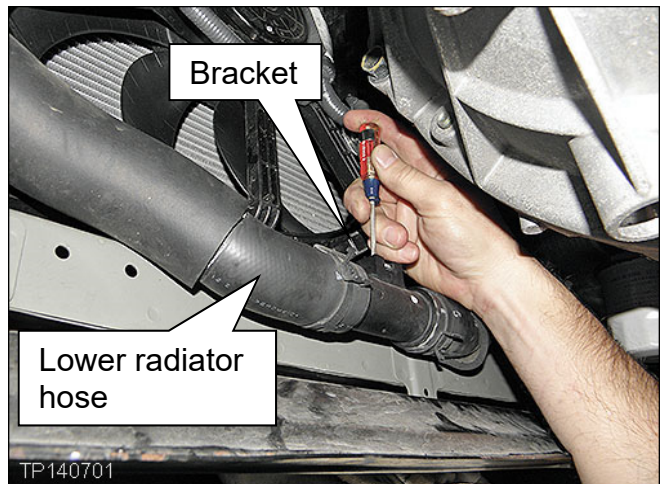

Figure 2
3. Disconnect the lower radiator hose/tube from the mounting bracket shown in Figure 2.